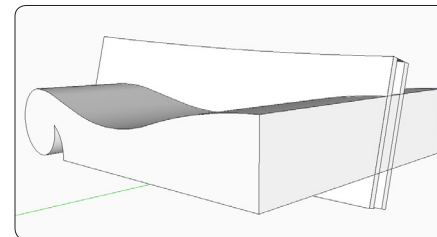
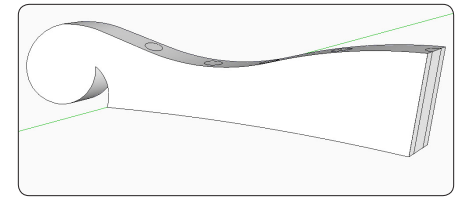

Figure 25. Push the front shape through the top shape, select everything, then use the Intersect Faces with Selection command.
Figure 26. The top rail after the two shapes have been intersected and the waste removed.
Step 3 Use the Push/Pull Tool to extrude the front shape through the top shape. Select all the graphics, right-click, and choose Intersect Faces with Selection from the pop-up menu (Figure 25). Use the Eraser Tool to remove waste, yielding the half-rail shape shown in Figure 26.